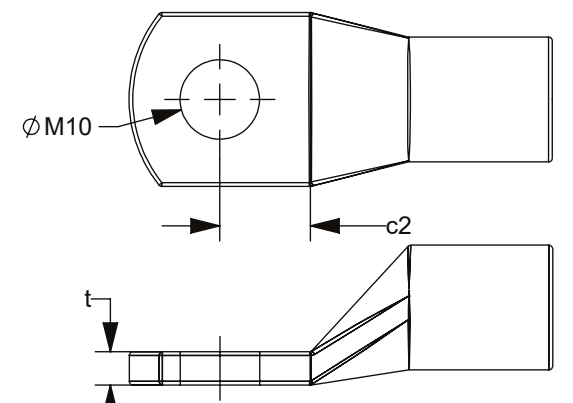

FIGURE 1
3. ASSEMBLE THE ISOLATED BOLT, M10 RING TERMINAL, & M10 ZCASE TO THE BASE ASSEMBLY. SECURE THE BOLT TO  $16 \pm 2 \text{ N}\cdot\text{m}$ . BE SURE THE RING TERMINAL DIMENSIONS MATCH THE FOLLOWING REQUIREMENTS (FIGURE 1):